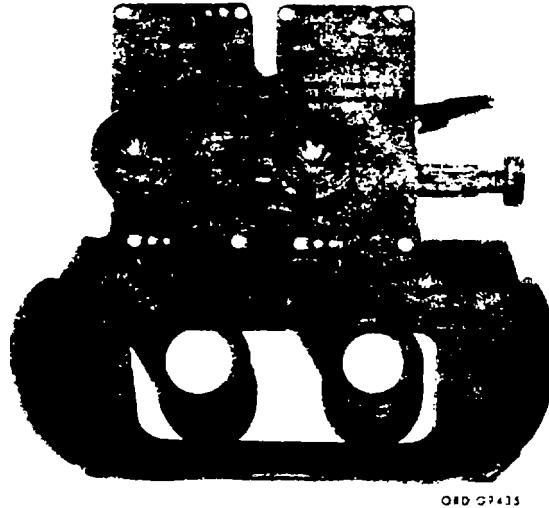

Figure 2. 8x30 binoculars
- (1) For all practical purposes, the optical unit (1, fig. 1) for the DX-43 training set can be described as a large set of special-purpose binoculars. Short-distance targets are viewed directly through the unit's eyepiece which does not magnify the target area; long distance targets are viewed through the 8 X 30 binoculars (fig. 2) that are issued with the trainee.